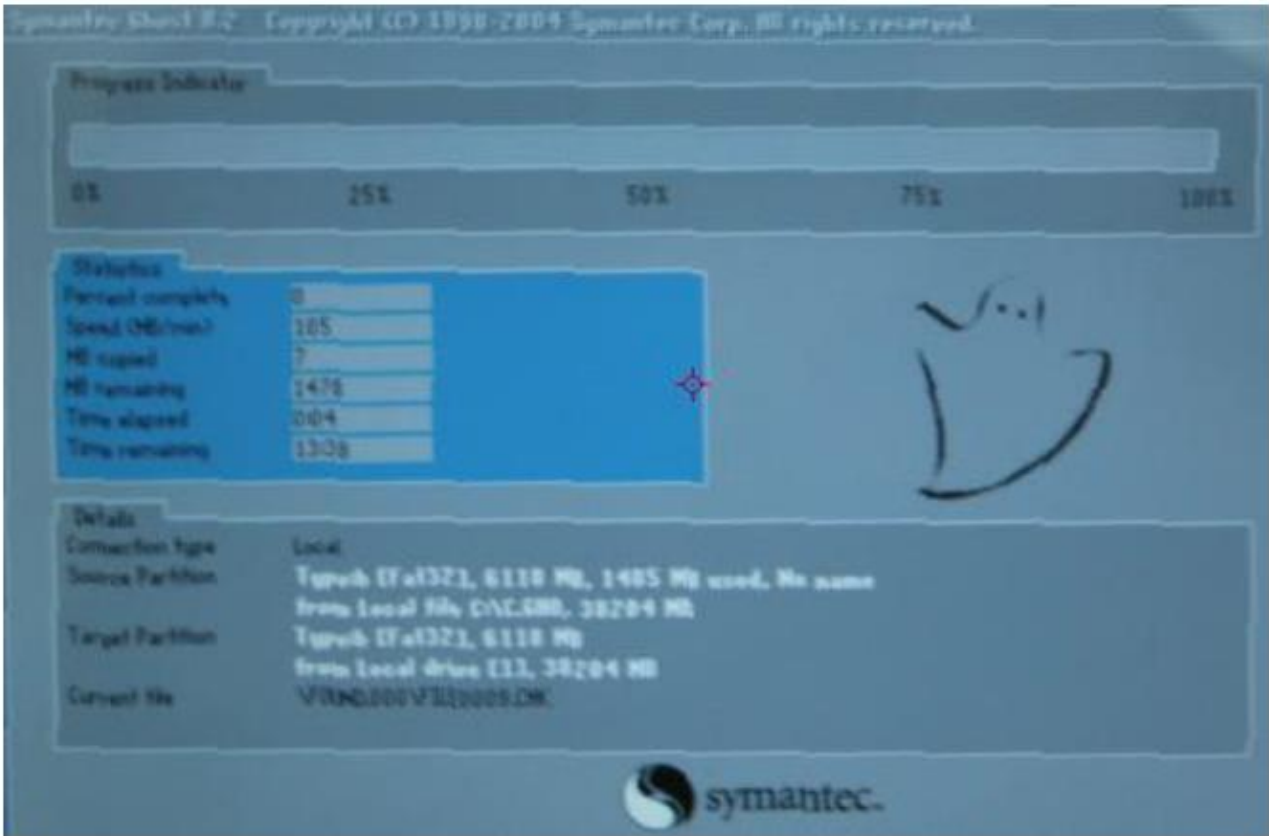

Fig. 3.10 System Recovery Screen
3) If the screen shown in Fig. 3.10 appears, system recovery is started. About 10min is required in the whole process of system recovery. Restart the analyzer after recovery.